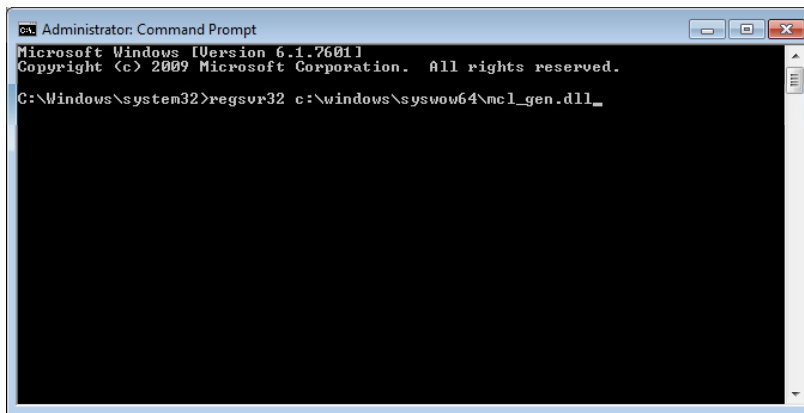

Figure 5 – Type command
- Type regsvr32 c:\windows\syswow64\mcl\_Gen.dll, see figure 5